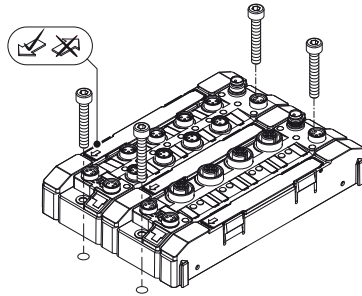

Fig. 4: Fixing the device to the mounting plate
- Mount the modules or the module composites according to **Fig. 4: Fixing the device to the mounting plate.**